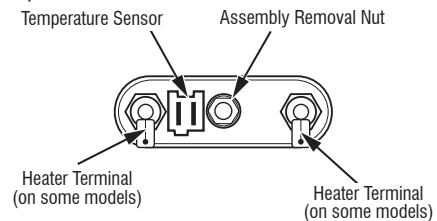

Figure 9 - Heater/temperature Sensor Assembly
- 6.** Disconnect the wire connectors from the heating element. See Figure 9.
6. Disconnect the wash temperature sensor connector from the heating element. See Figure 9, page 19.